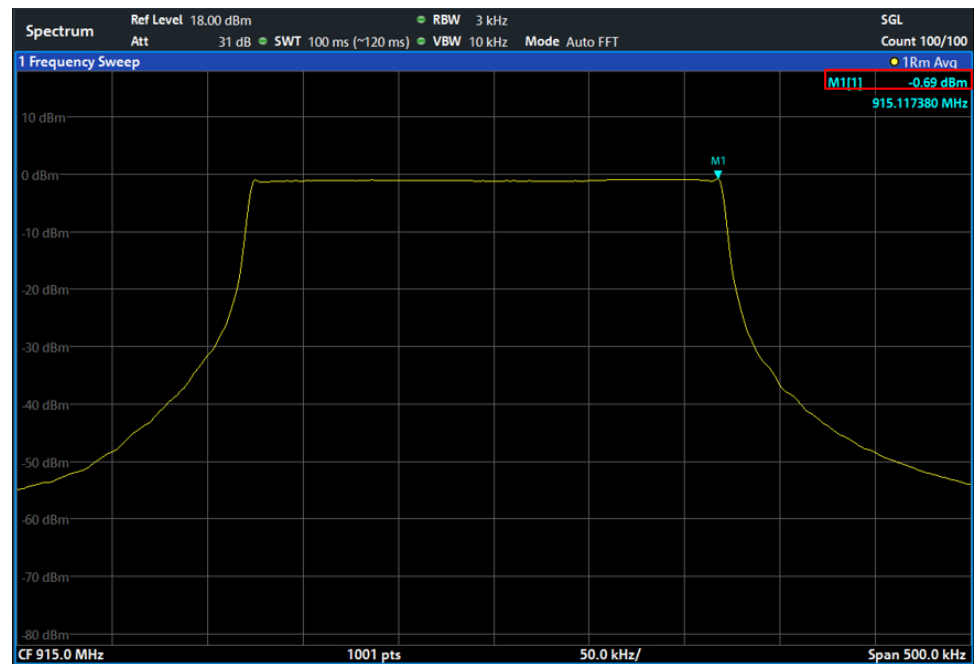

Figure 2-22: Power spectral density measurement, LoRa signal SF = 12, 250 kHz
55. Press the Mkr-> key and select Peak. The measurement result is shown in Figure 2-22.